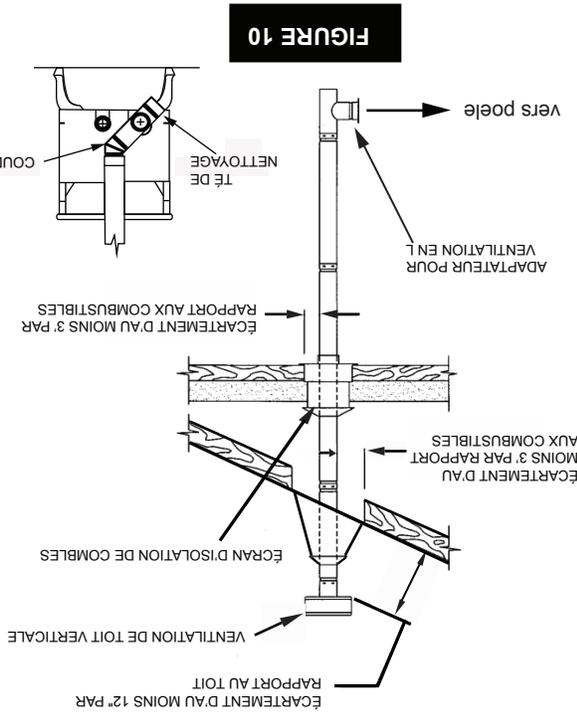

FIGURE 10
C. VERTICALEMENT AVEC UN SYSTEME DE CHEMINÉE NEUF (Figure 10)